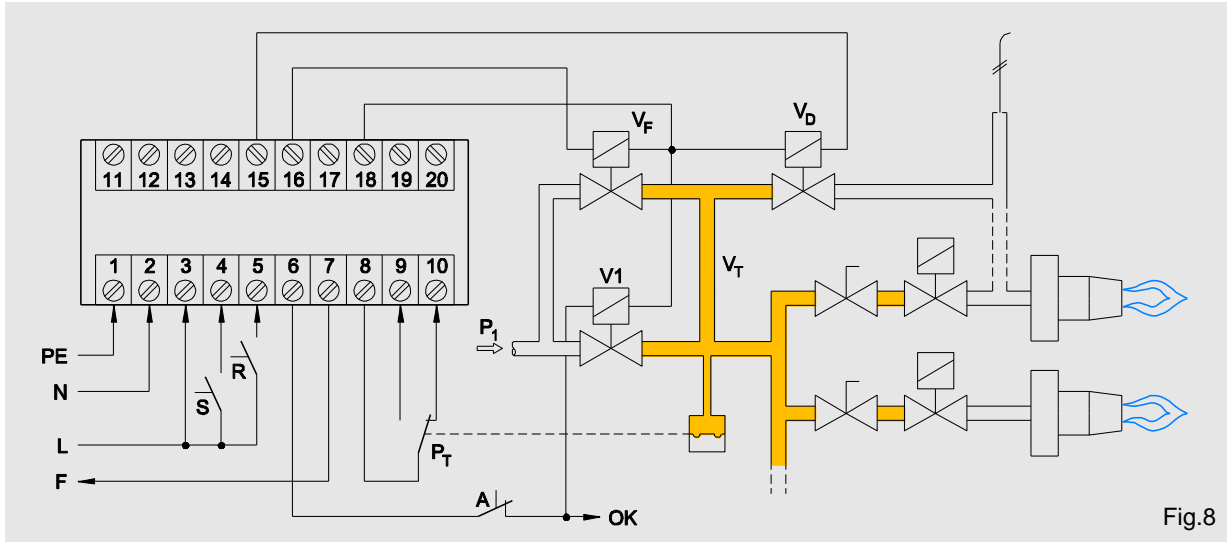

Fig.8
**Multiple burner system with 2 safety valves installed in series and auxiliary valves for the filling and discharge (Fig.8).**